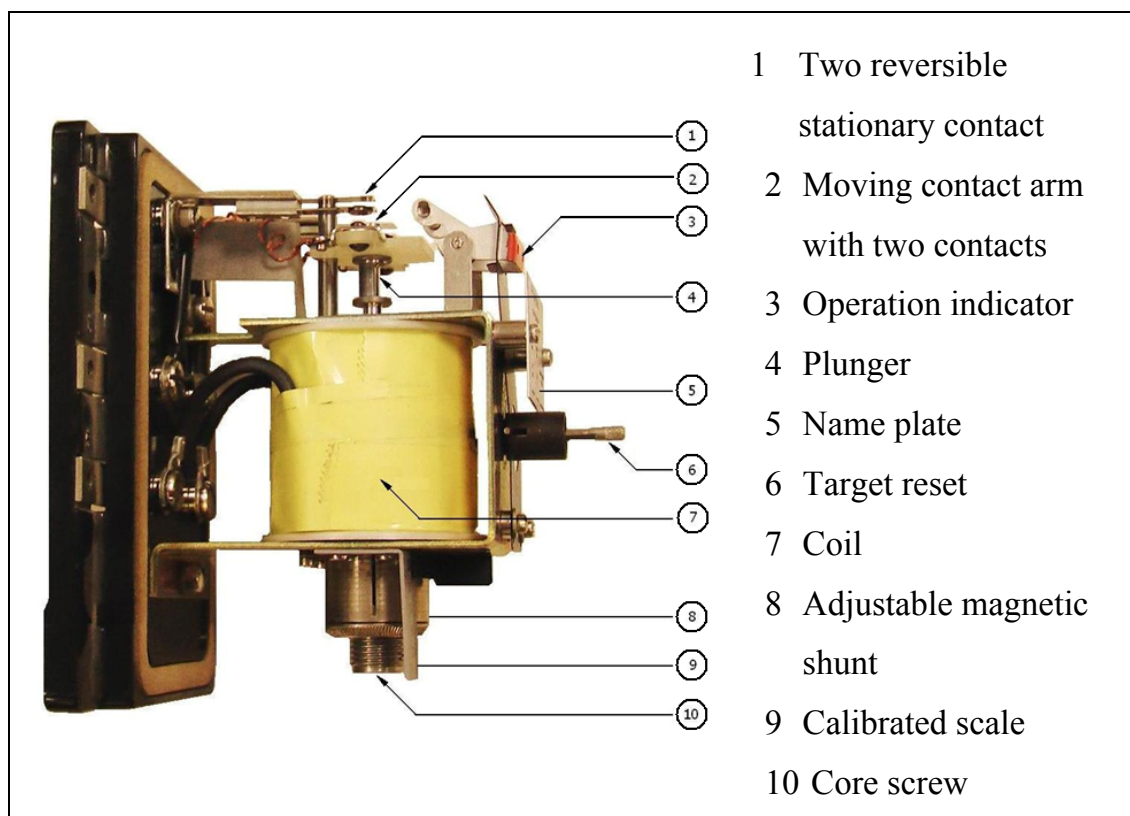

Fig. 1-1 Plunger Type Relay
- Plunger voltage relay (Westinghouse type SV), shown in Fig. 1-1.